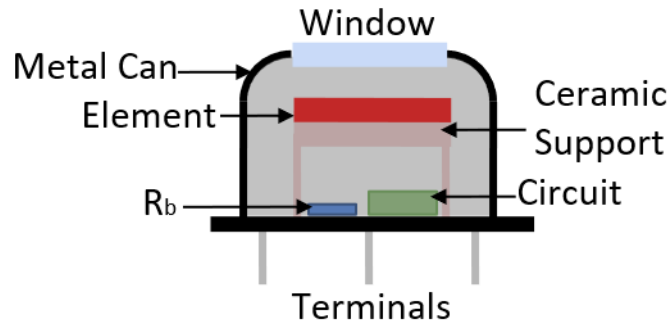

Figure 6.13.1: Construction of Pyroelectric Sensor
- The pyroelectric materials are used in the form of thin slices using a single crystal as shown in Figure 6.13.1.